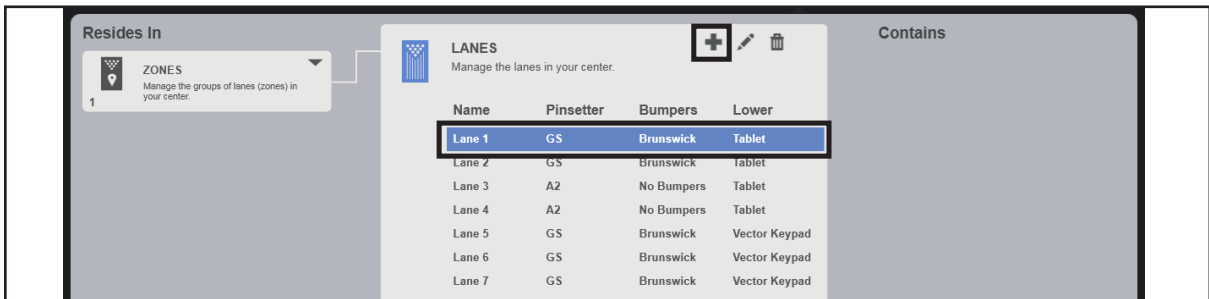

Figure 24. Lanes Screen - Edit
3. Select the lane to configure the bumpers. Select the edit button. Refer to *Figure 24*.